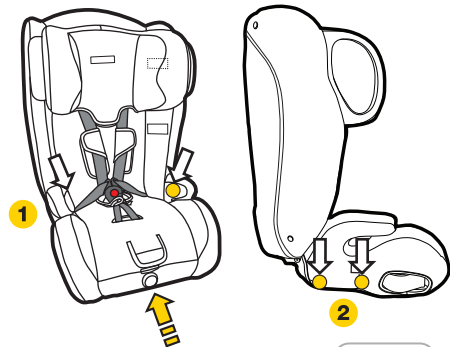

Figure 3
**Step 1:** Slide the cover on to the seatbase (refer Figure 3).